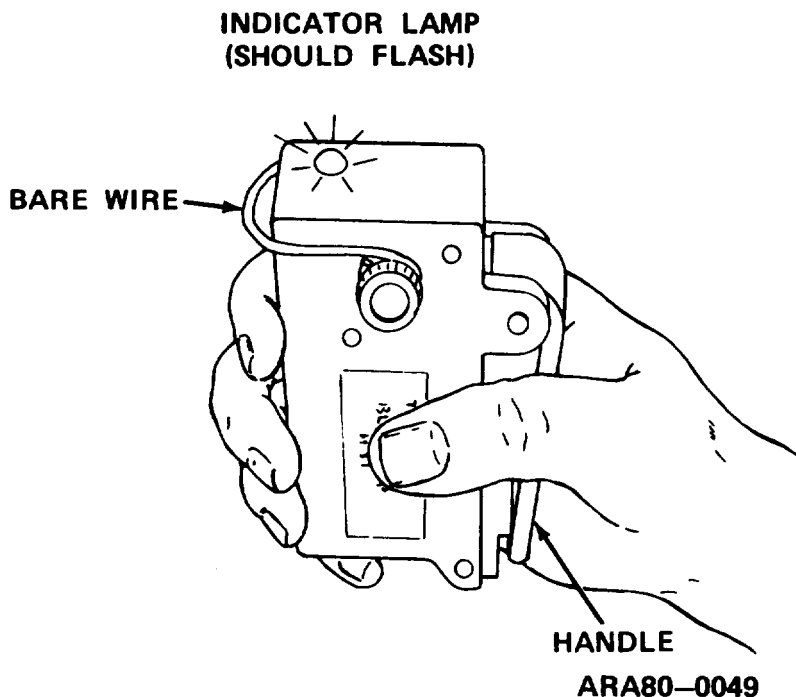

Figure 2-10. Checking Serviceability of M51 Blasting Cap Test Set. (ARA80-0049).
(1) Cut piece of cable, approximately 6 inches long. Strip ends, and connect between binding posts (fig. 2-10).
(2) Firmly depress handle while observing indicator lamp. If set is operative, indicator lamp will flash.